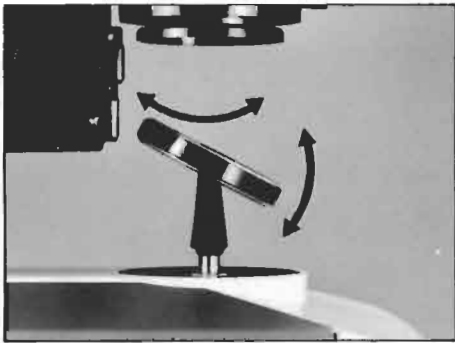

Fig. 10
2) Looking through the observation tube, adjust the mirror angle and direction so that the field of view is evenly illuminated. (Fig. 10)